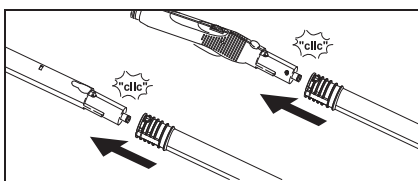

Figure 7
- Use the extension pieces (G1) if necessary. To do so, connect one or both extension pieces to the steam gun (C1) (see Fig. 7). Insert the required accessories (D1, E1, F1, H1) on the free end of the extension piece.